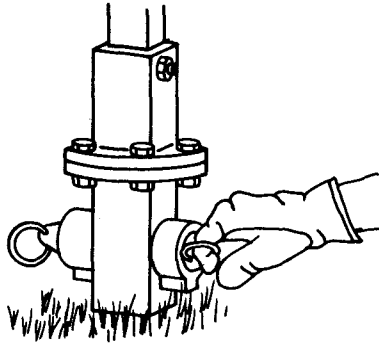

Fig. 12—Removing Kelly Bar and Locking Dog Assembly
4.09 If the pins do not shear, add an extension to the anchor. A 3-1/2 foot extension rod and wrench may be added as indicated in Fig. 12, 13, and 14.